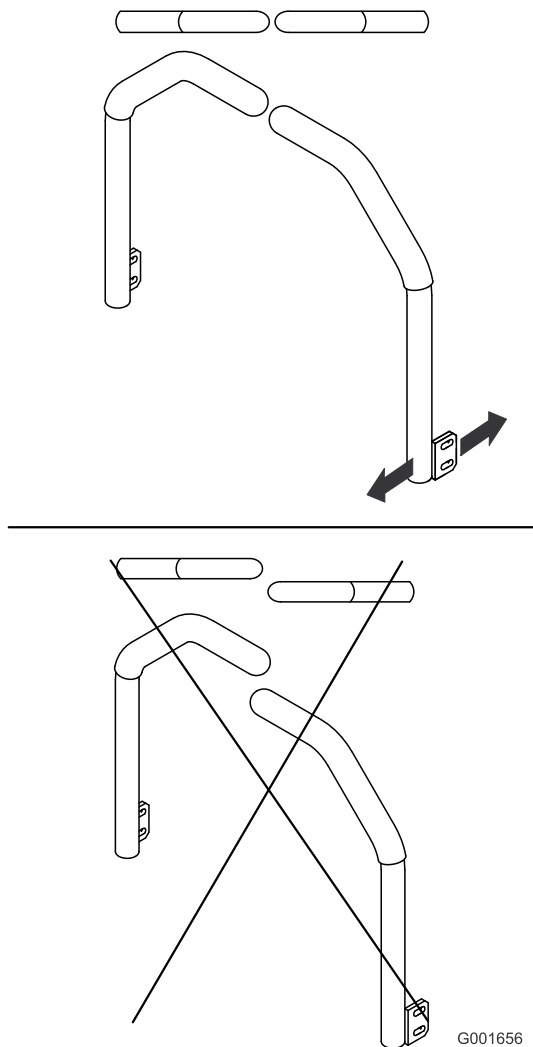

Figure 94
- Adjust the control levers so that they line up and tighten the bolts, securing the levers to the posts (Figure 94).